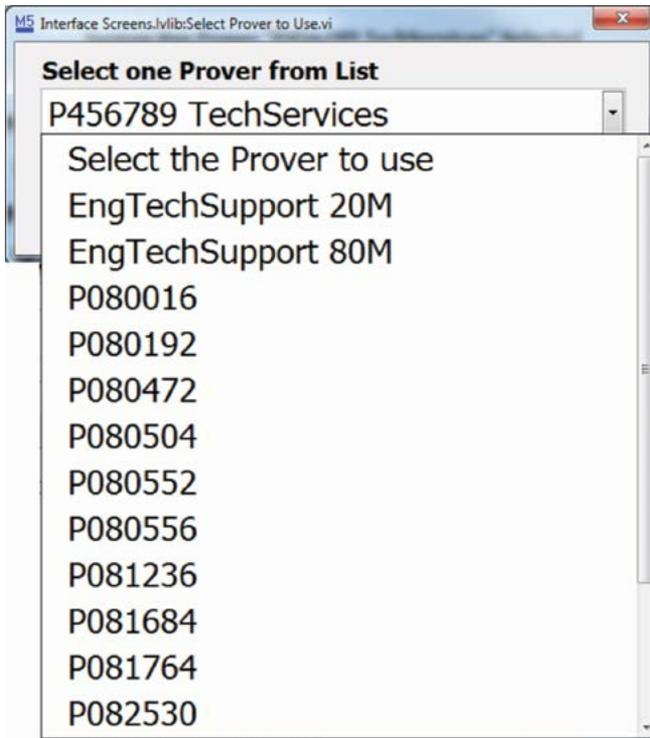

Figure 75: Drop Down Prover ID Selections
3. A drop-down menu will appear of all the Prover IDs available as shown in **Figure 75**. Select the Prover ID that corresponds to the Prover that will be used. If the Prover ID is not present, its presets will need to be loaded. Please refer to Section 5.1 for instructions.